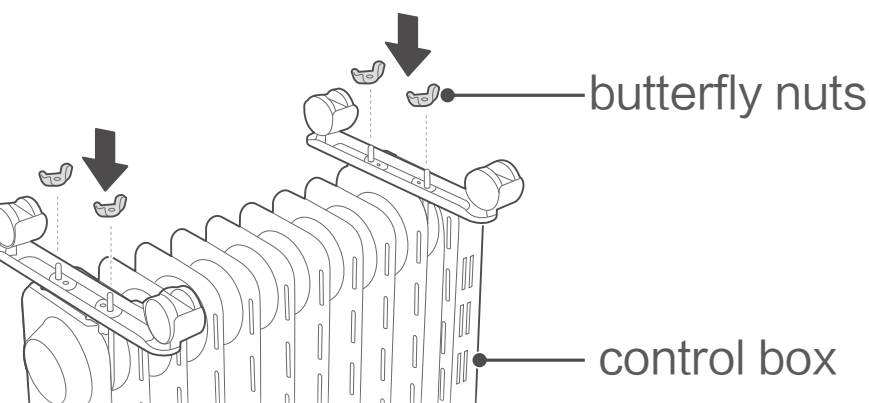

figure 2
- As shown in figure 2, two sets of caster components are tightened with four butterfly nuts. Install solid and then put the heater in place-just put the wheels on the ground.